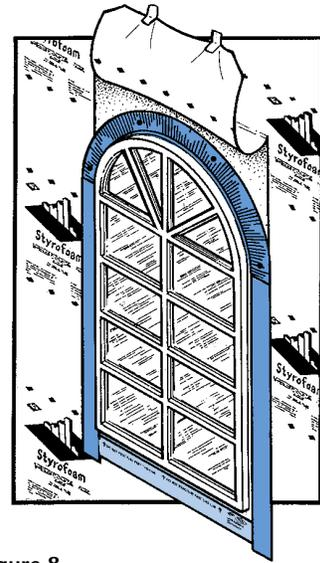

Figure 8
- c. Install WEATHERMATE™ Flexible Flashing along header (Figure 8). Secure outer edges of flashing with plastic cap nails to hold in place. Do not stretch flashing.